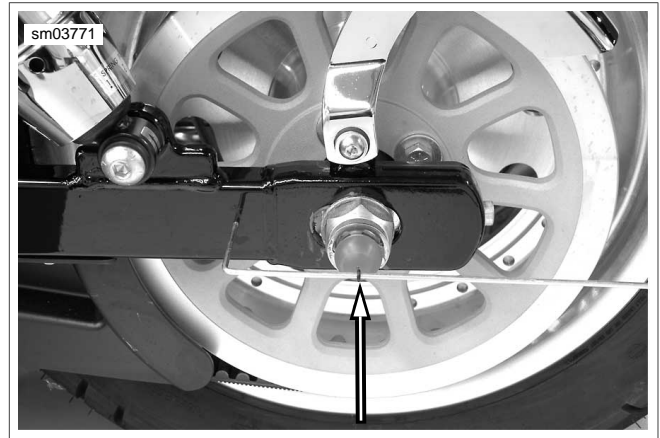

Figure 2-58. Measuring Alignment
5. See Figure 2-58. With the blunt point of the alignment tool inserted in the rear fork pilot hole, slide the O-ring along the tool until it is aligned with the center of the alignment plug as shown. Measure and record distance from end of tool to O-ring. Repeat for the other side of the motorcycle.